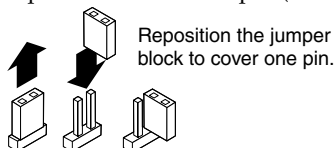

Figure 3 — Setting jumper 1 to uni-directional
3. Locate jumper JMP1 on the main board. Remove and reposition it over one pin (see figure 3).